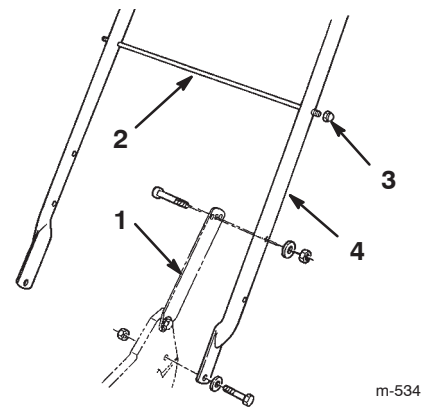

Figure 2
2. Secure the handle latches to the handle with 2 cap screws (5/16–18 x 1-1/2 in.), washers, and nylon insert locknuts (Fig. 2).
- Slide the bag support rod through the second from the top mounting holes in the handle and secure each end with a cap locknut (Fig. 2).